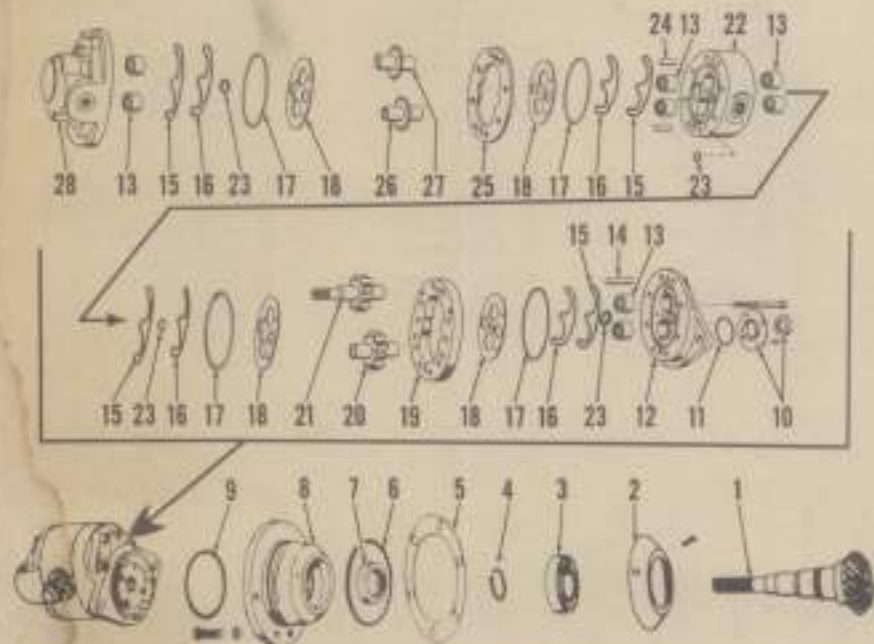

Fig. 180—Exploded view of gear type hydraulic pump used on Series IV D-17 tractors. Small gears (26 & 27) are for "Traction Booster" system.
The side mounted, gear type hydraulic pump shown in Fig. 180 is driven by the bevel gear on end of hollow shaft (10—Fig. 97). The hollow pump drive shaft is splined into the engine clutch cover (5—Fig. 92) and drives the pump all the time engine is running.
**270. REMOVE AND REINSTALL.** Before removing the hydraulic pump, clean the pump and all connecting hydraulic lines and fittings. The pump unit (10 through 28—Fig. 180) can be removed from the drive assembly after disconnecting hydraulic lines and removing the two mounting screws.
**271. OVERHAUL.** Before disassembling the pump, scribe a mark across the outside of pump to facilitate reassembly. Remove the eight socket head screws from pump base (12—Fig. 180), then carefully separate the pump sections. NOTE: Do not pry the pump apart as this will damage sealing surfaces.